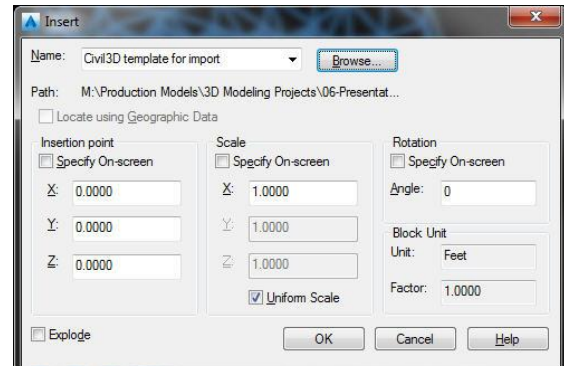

Figure 32: Insert Civil 3D Template
- To recognize the surface you have to import a Civil 3D template into AUD, you do this typing “insert” in the command line (or any other method for inserting a block reference) (Figure 32)
- Import a Civil 3D template (Figure 32)